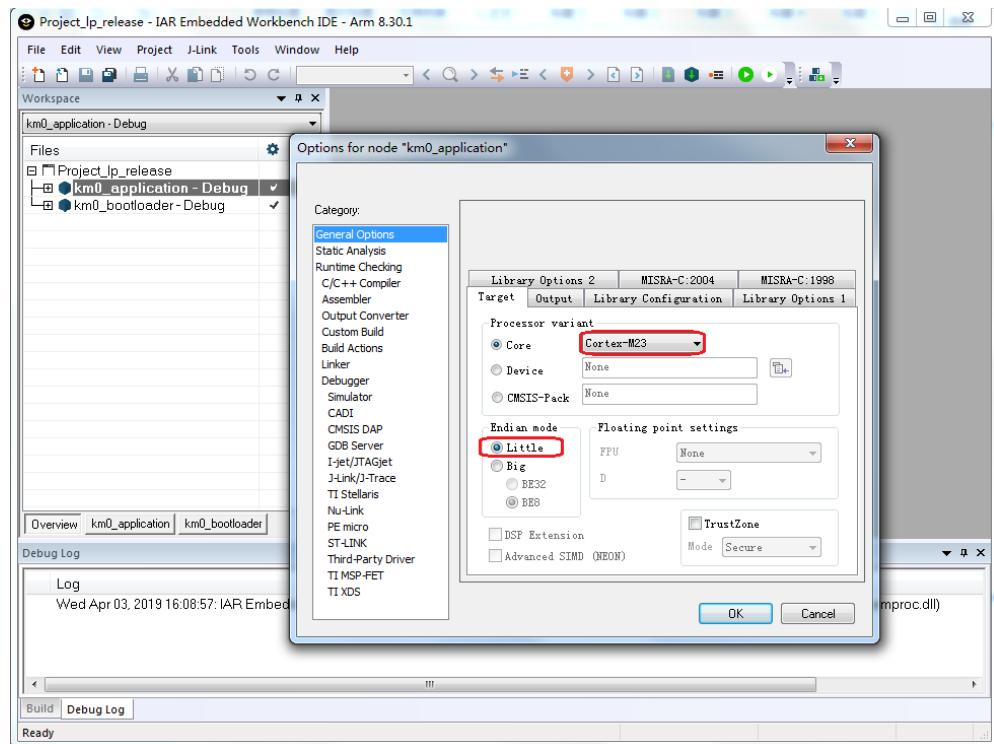

Fig 6-7 KM0 processor options
- (1) Open `project\realtek_amebaD_va0_example\EWARM-RELEASE\Project_ip_release.eww`.
- (2) Make sure km0\_bootloader and km0\_application are in Workspace. Click **Project > Options, General Options > Target > Processor Variant > Core**, verify the CPU configurations according to Fig 6-7.